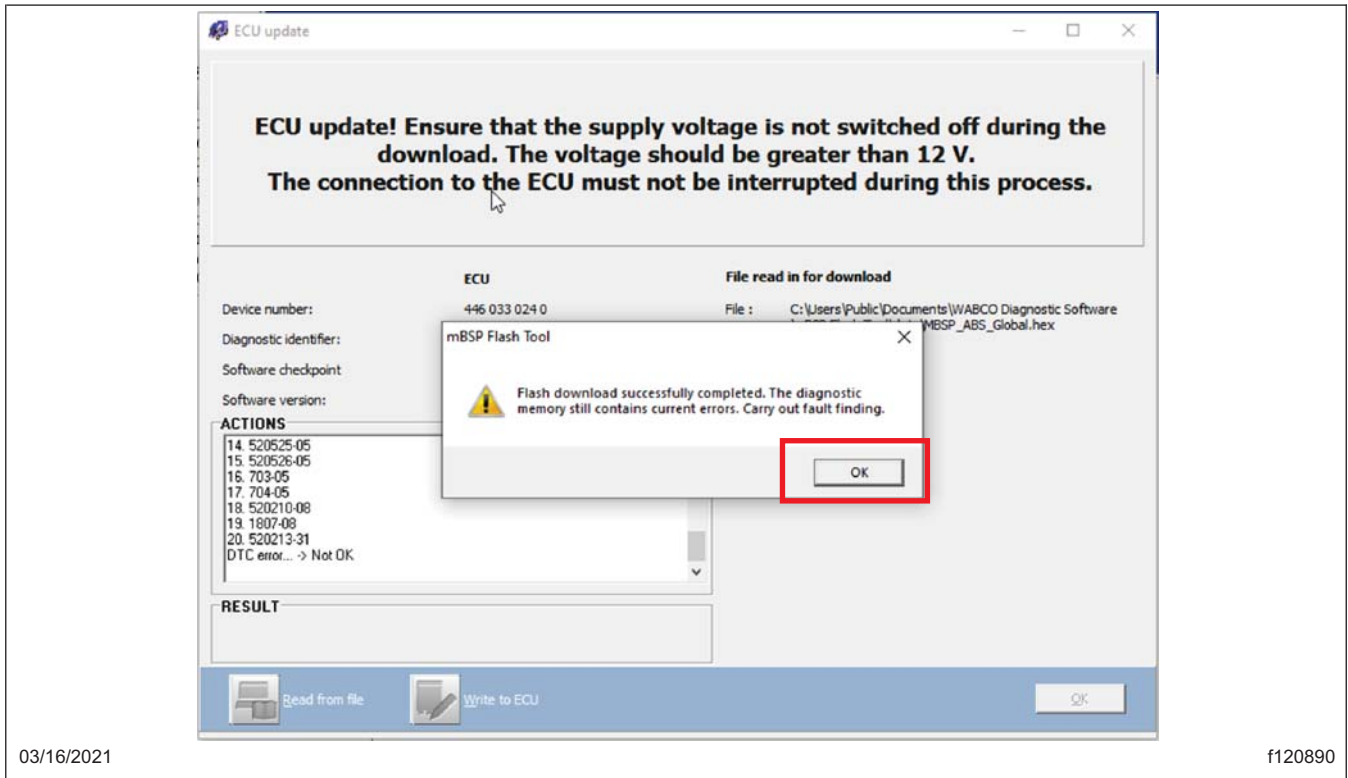

Fig. 30, Carrying Out Fault Finding
15. Once the ECU update is complete, some ECU errors may be present. Select 'OK' and close out of the flash tool and start the calibration mode. See Fig. 30.